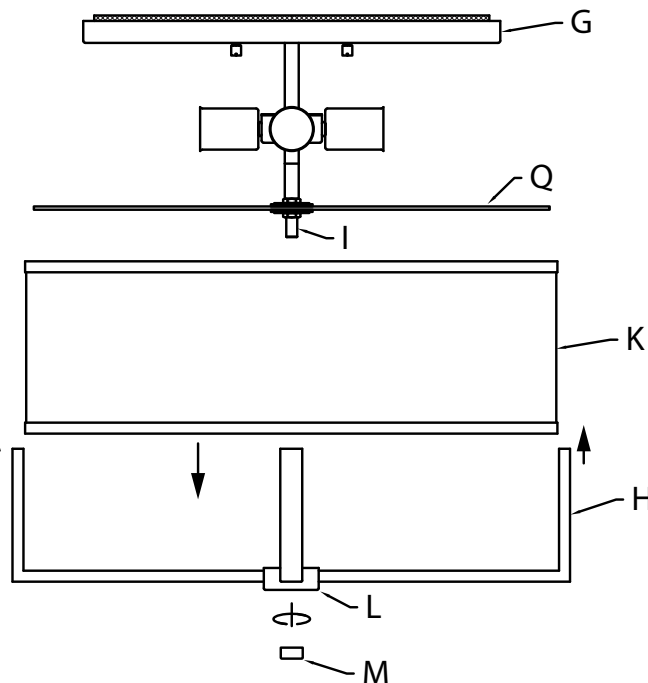

Fig. 3
- Carefully lower shade [K] down into frame [H] (Fig. 3).